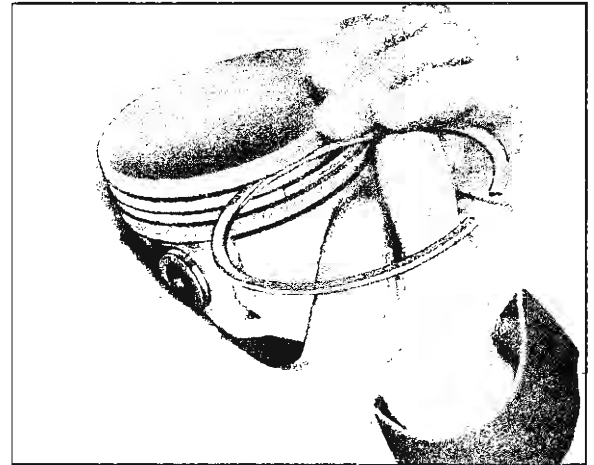

Fig. 61—Rolling Ring in Groove
8. Slip the outer surface of the compression ring into the piston ring groove and roll the ring entirely around the groove to make sure that the ring is free and does not bind in the groove at any point (fig. 61). If binding occurs, the cause should be determined and removed by carefully dressing with a fine cut file. However, if the binding is caused by a distorted ring, install a new ring.